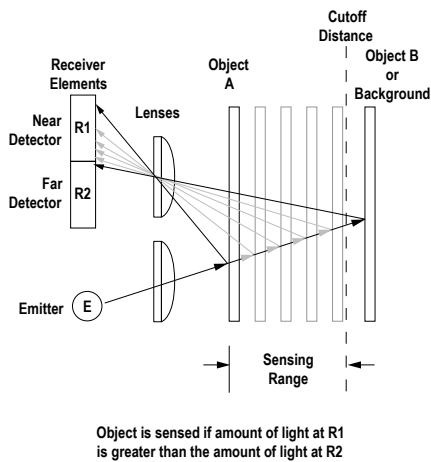

Figure 1. Fixed-Field Concept
The S30FF compares the reflections of its emitted light beam (E) from an object back to the sensor's two differently aimed detectors, R1 and R2. See Figure 1 on page 2. If the near detector's (R1) light signal is stronger than the far detector's (R2) light signal (see object A in the Figure below, closer than the cutoff distance), the sensor responds to the object. If the far detector's (R2) light signal is stronger than the near detector's (R1) light signal (see object B in the Figure below, beyond the cutoff distance), the sensor ignores the object.